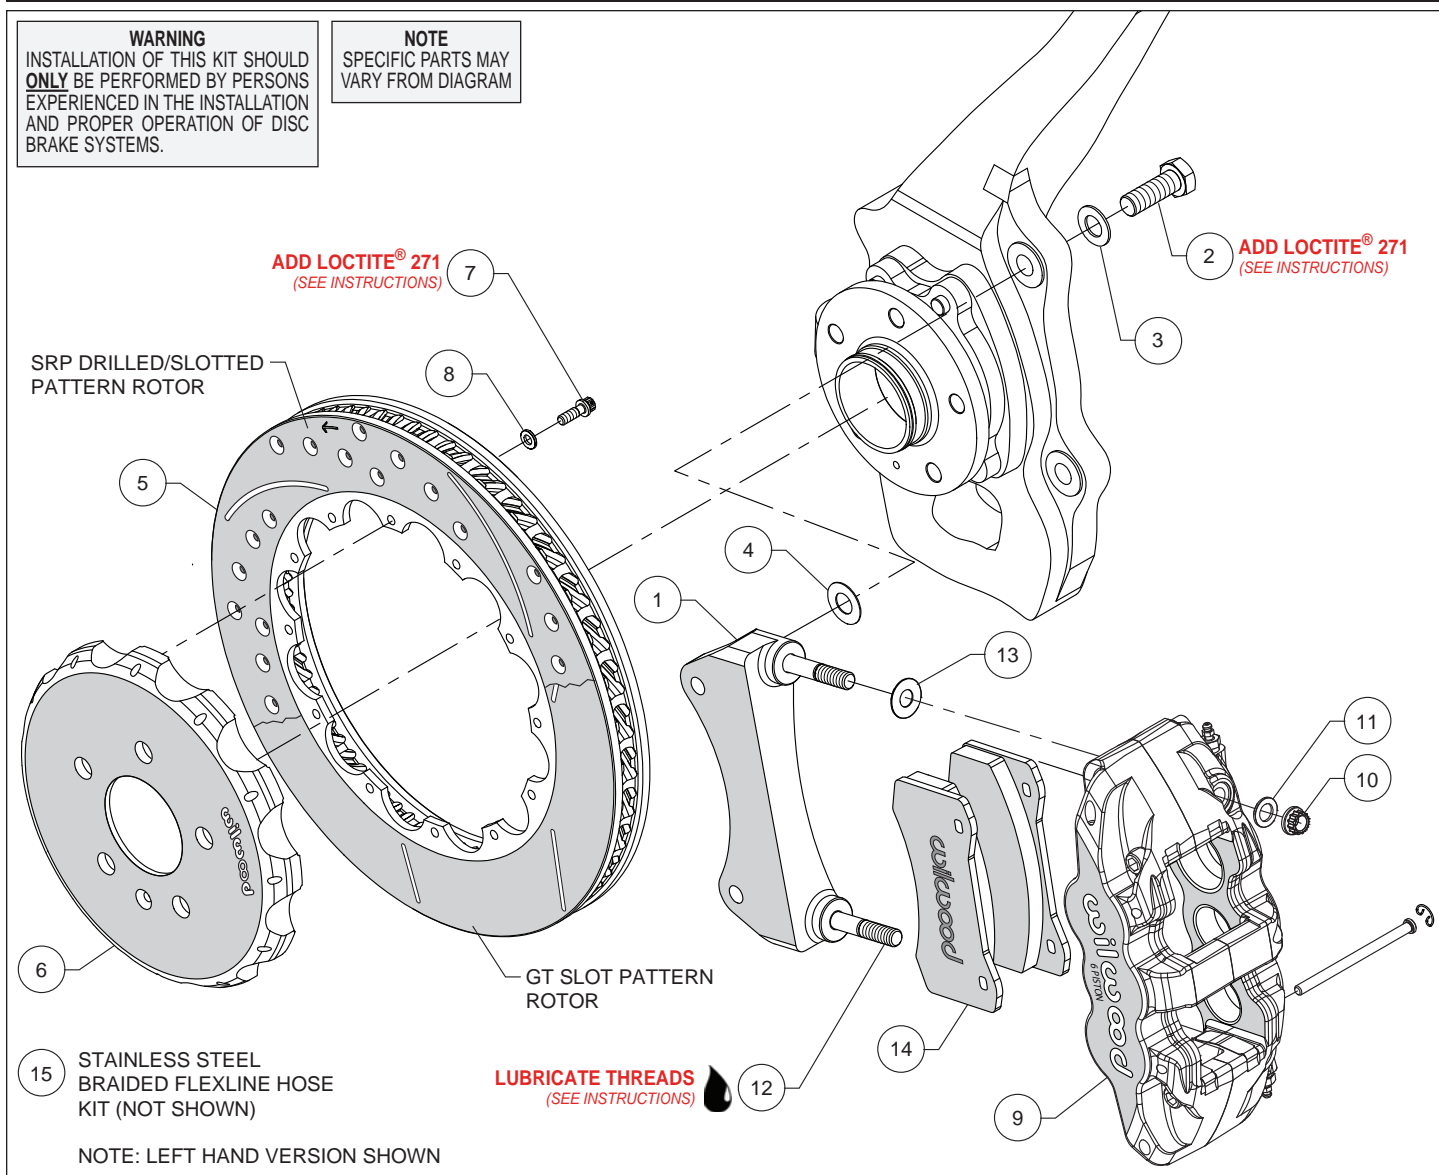
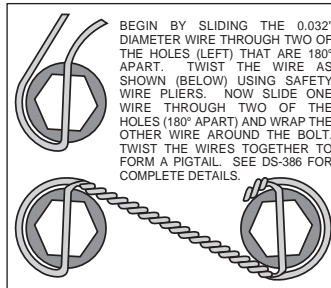

Figure 1. Typical Installation Configuration
Figure 3. Safety Wire Diagram
Assembly Instructions (numbers in parenthesis refer to the parts list and Figure 1 on the preceding pages):
- The caliper mount bracket (1) should initially be installed with clean, dry threads on the mounting bolts. Orient the bracket as shown in Figure 1 and Photo 1, and install using bolts (2) and washers (3). Initially place one .029 thick shim (4) on each bolt between the bracket and upright, Figure 1. Temporarily tighten the mounting bolts. **NOTE:** *The bracket must fit squarely against the mounting points on the upright.* Inspect for interference from casting irregularities, machining ridges, burrs, etc. Later, after the caliper alignment has been checked, the mount bolts will be secured using red *Loctite*[®] 271.
- Orient the rotor (5) and the hat (6) as shown in Figure 1 and Photo 2. Attach rotor to hat using bolts (7) and washers (8). Using an alternating sequence, apply red *Loctite*[®] 271 to the threads, and torque to 155 **in-lbs**. For an added measure of security, the bolts may be safety wired using standard 0.032 inch diameter stainless steel safety wire as shown in Figure 3. Please refer to Wilwood's data sheet DS-386 (available at www.wilwood.com/Pdf/DataSheets/ds386.pdf) for complete safety wire installation instructions.
- **NOTE:** *This kit contains distinct right and left hand calipers that must be mounted in a specific direction, as described below.* Lubricate the caliper mounting studs (12) with lightweight oil. Initially place one .030" thick shim (13) on each stud between the caliper and the bracket, as shown in Figure 1 and Photo 5. Mount the caliper (9) onto the bracket (1) using lock nuts (10) and washers (11), Figure 1. Ensure that the caliper is mounted so the largest pistons are at the rotor exit end of the caliper, in relation to the direction of rotor rotation. Temporarily tighten the lock nuts and view the rotor through the top opening of the caliper. The rotor should be centered in the caliper, Photo 6. If not, adjust by adding or subtracting shims (4) between the bracket and the upright. Always use the same amount of shims on each of the two mounting bolts. Once the caliper alignment is correct, remove the bracket mounting bolts (2) one at a time, apply red *Loctite*[®] 271 to the threads, and torque to 77 ft-lbs.
- Remove the two pad retaining pins from the caliper (9) by carefully popping out the pin retaining clips and sliding out the pins. Insert the brake pads (14) into the caliper from the bottom, Figure 1 and Photo 7. With the friction material facing the rotor, secure the brake pads in place with the pad retaining pins and